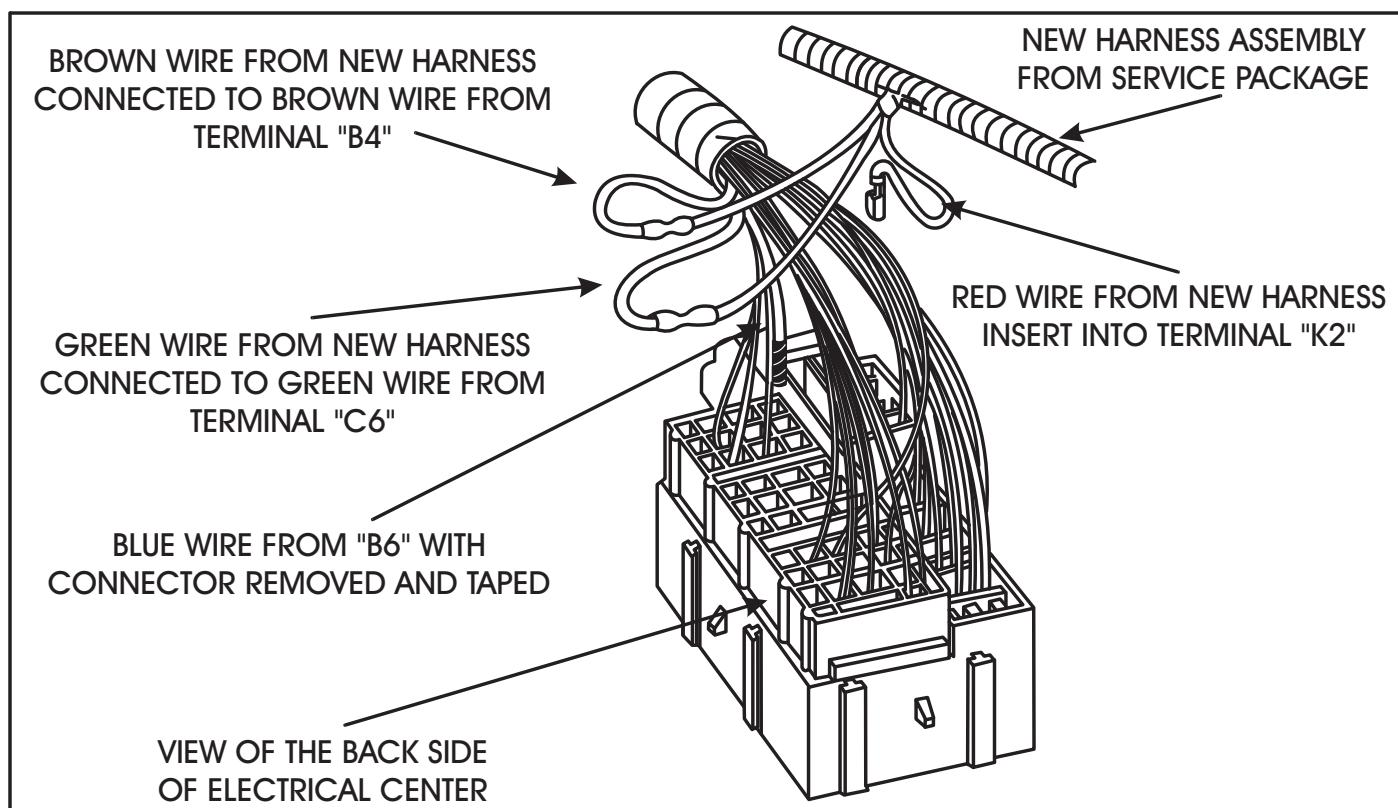
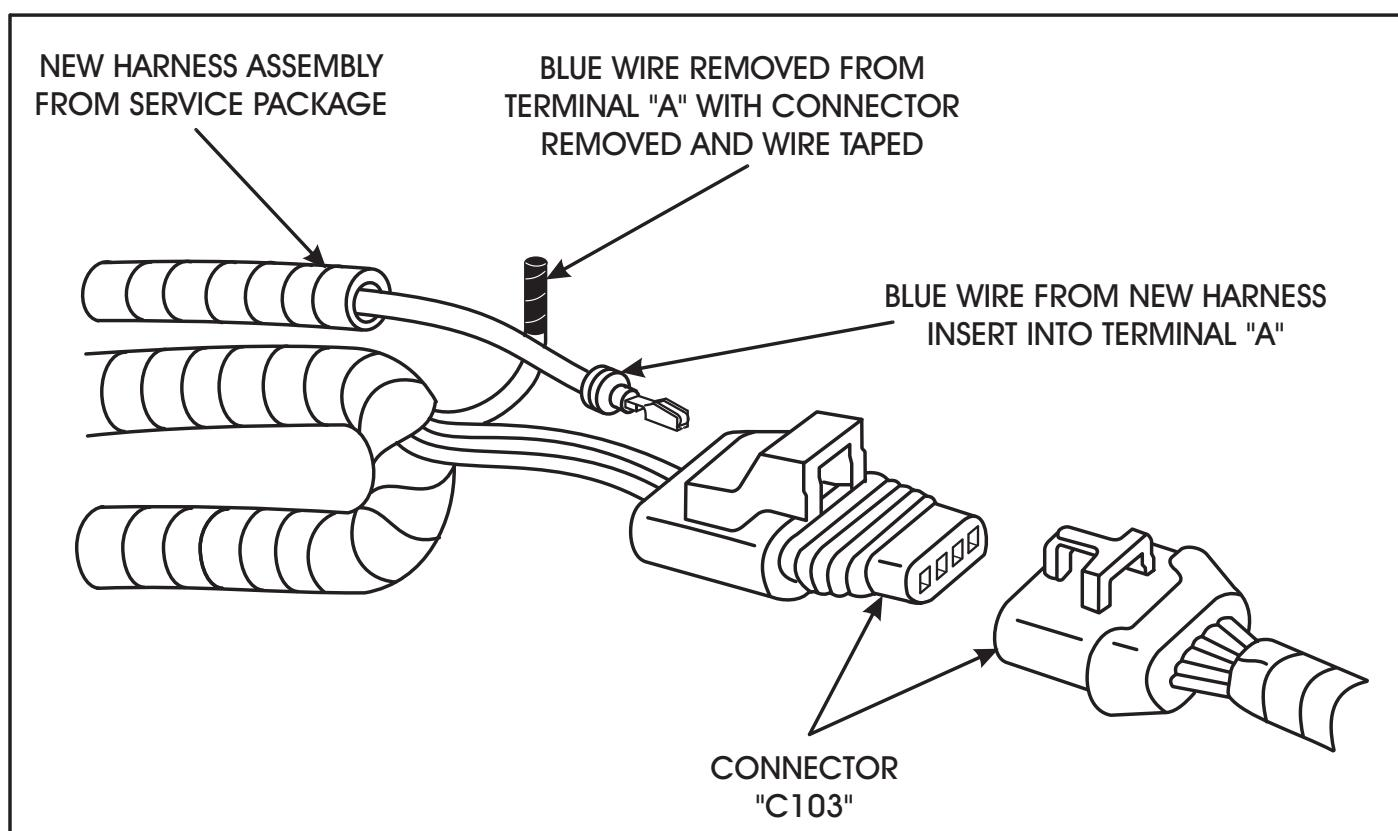

Figure 5
Figure 6
- (7) Locate the new cooling fan relay and harness assembly from the service package, and insert the "Red" wire and terminal int cavity "K2" of the Electrical Center, as shown in Figure 5. Cut the old terminal ends from the "Brown" and "Green" wires that were previously removed from the Electrical Center in Step 5, and discard. Using the crimp connectors from the service package, connect the "Brown" wire from the new harness assembly to the "Brown" wire removed from terminal "B4", as shown in Figure 5. Using the remaining crimp connector from the service package, connect the "Green" wire from the new harness assembly to the "Green" wire removed from terminal "C6", as shown in Figure 5. Heat shrink the connections to insure a water tight seal, and reinstall the Electrical Center into the case.
- (8) Reinstall the 40 Amp, number 12 Maxi-fuse.
- (9) At connector number "C103", install the "Blue" wire and terminal from the new harness assembly into cavity "A", as shown in Figure 6, and plug the connector back together.